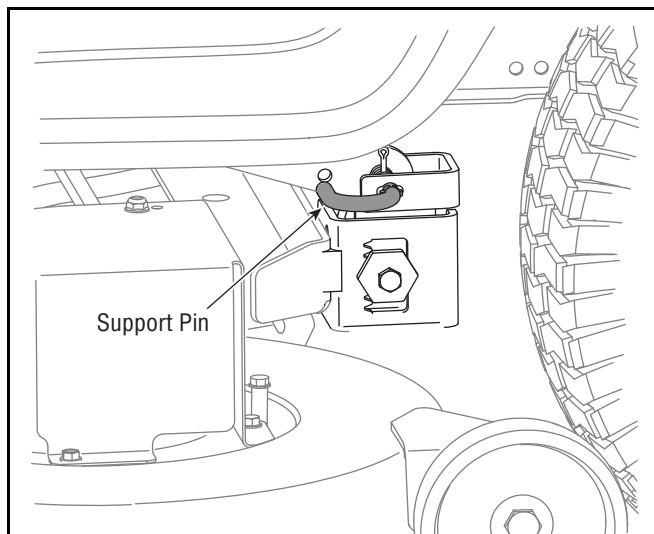

Figure 21
5. Pull the deck support pin outward to release the deck from the deck lift arm. See Figure 21.